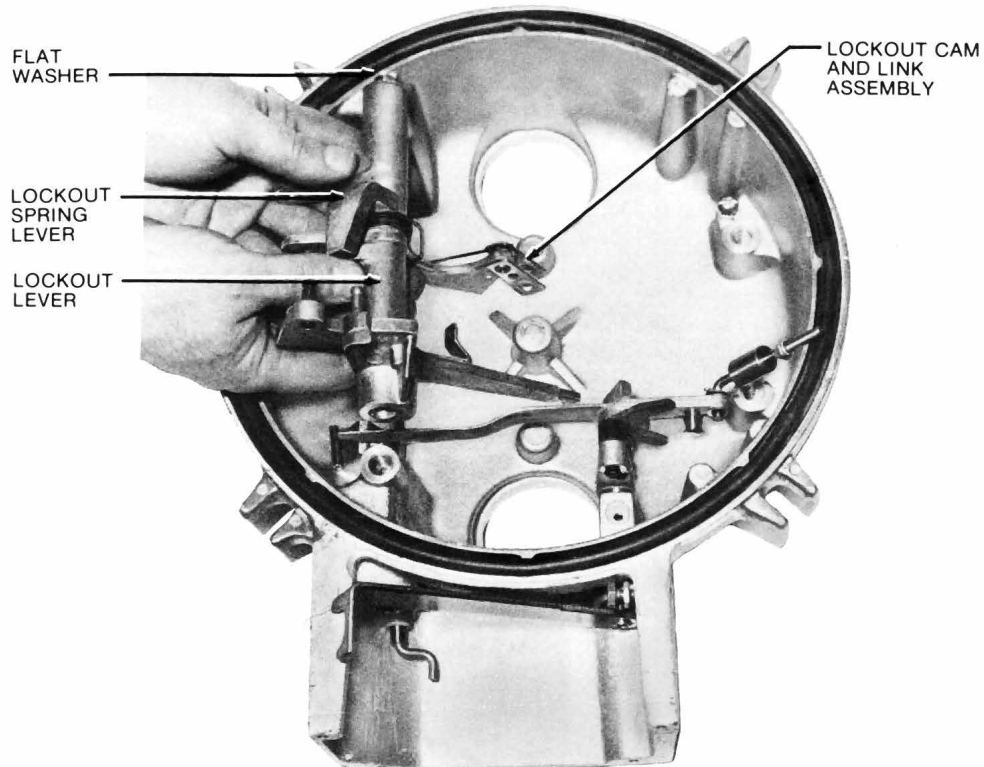

Figure 36. Head mechanism parts being removed
7. Pull the operating lever and remove manual trip lever. Then lift out the lockout cam and link assembly, and lockout lever. See Figure 36.